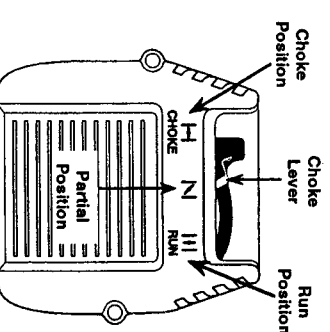
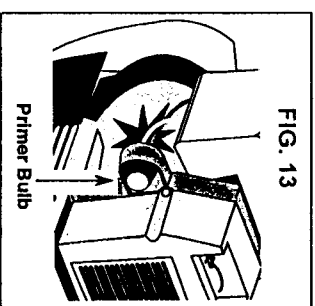

FIG. 12
FIG. 13
5. Slide choke lever to PARTIAL POSITION (see Fig. 12). Pull starter rope 1-3 times to start engine.
3. COLD START: Slide the choke lever to full choke position (Fig. 12). Press and release the primer bulb 2-5 times (Fig. 13).
6. Slide the choke lever to RUN POSITION (Fig. 12). Re-start and allow the engine to run for a few more seconds on 1/2 throttle lock (engine runs fast). Pull throttle trigger (releases 1/2 throttle lock), & allow throttle trigger to slowly pull back to engine idle.